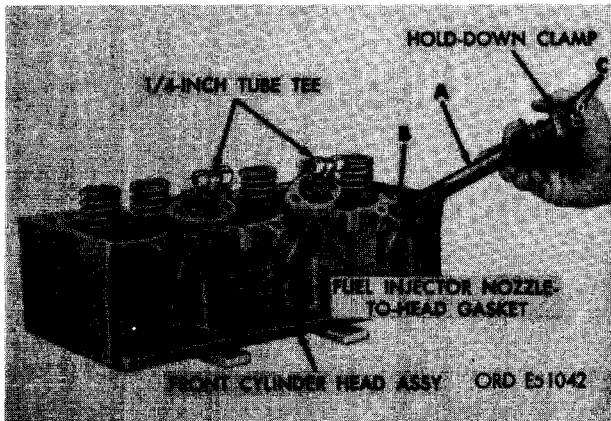

FIGURE 194. REMOVING OR INSTALLING FUEL INJECTOR NOZZLE AND HOLDER ASSEMBLIES.
- (2) Figure 194. (A) Remove the three fuel injector nozzle and holder assemblies from front cylinder head assembly. (B) Remove and discard the three fuel injector nozzle-to-head gaskets (C) Remove 1/4 tube x 1/8 tube tees from each nozzle and holder assembly. Remove hold-down clamps and note the dowel pin hole in clamp and the locating dowel pin in holder. The hold-down clamp must be installed so that the dowel pin will enter hole to properly position nozzle and holder assembly in cylinder head.